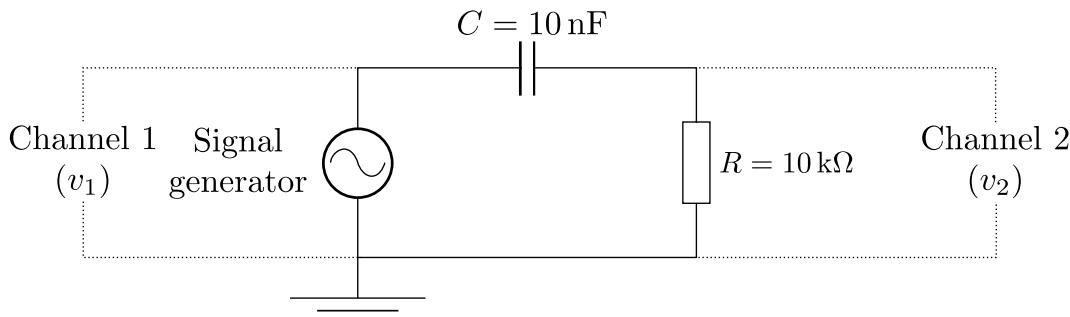

Figure 5: Circuit for the high-pass filter.
- Connect up the circuit in Figure 5 with the signal generator set to a peak-to-peak voltage of 10 V.
- Connect up the circuit in Figure 5 again. Set the signal generator to a peak-to-peak voltage of 10 V.